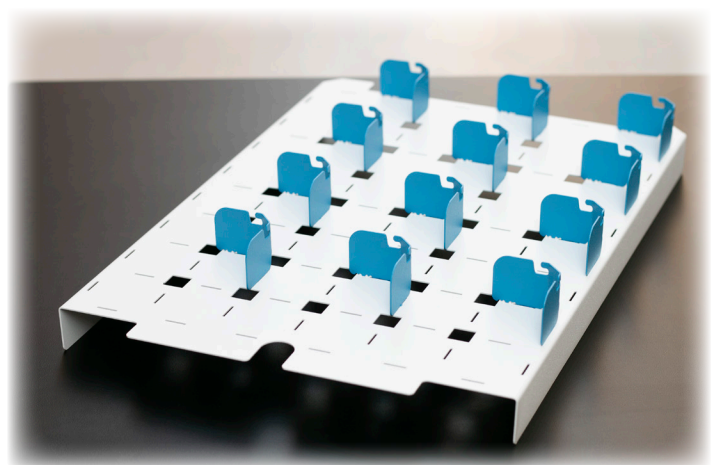

Figure 5.3
3. See p.6 for spacing / location suggestions. **Figure 5.3.**